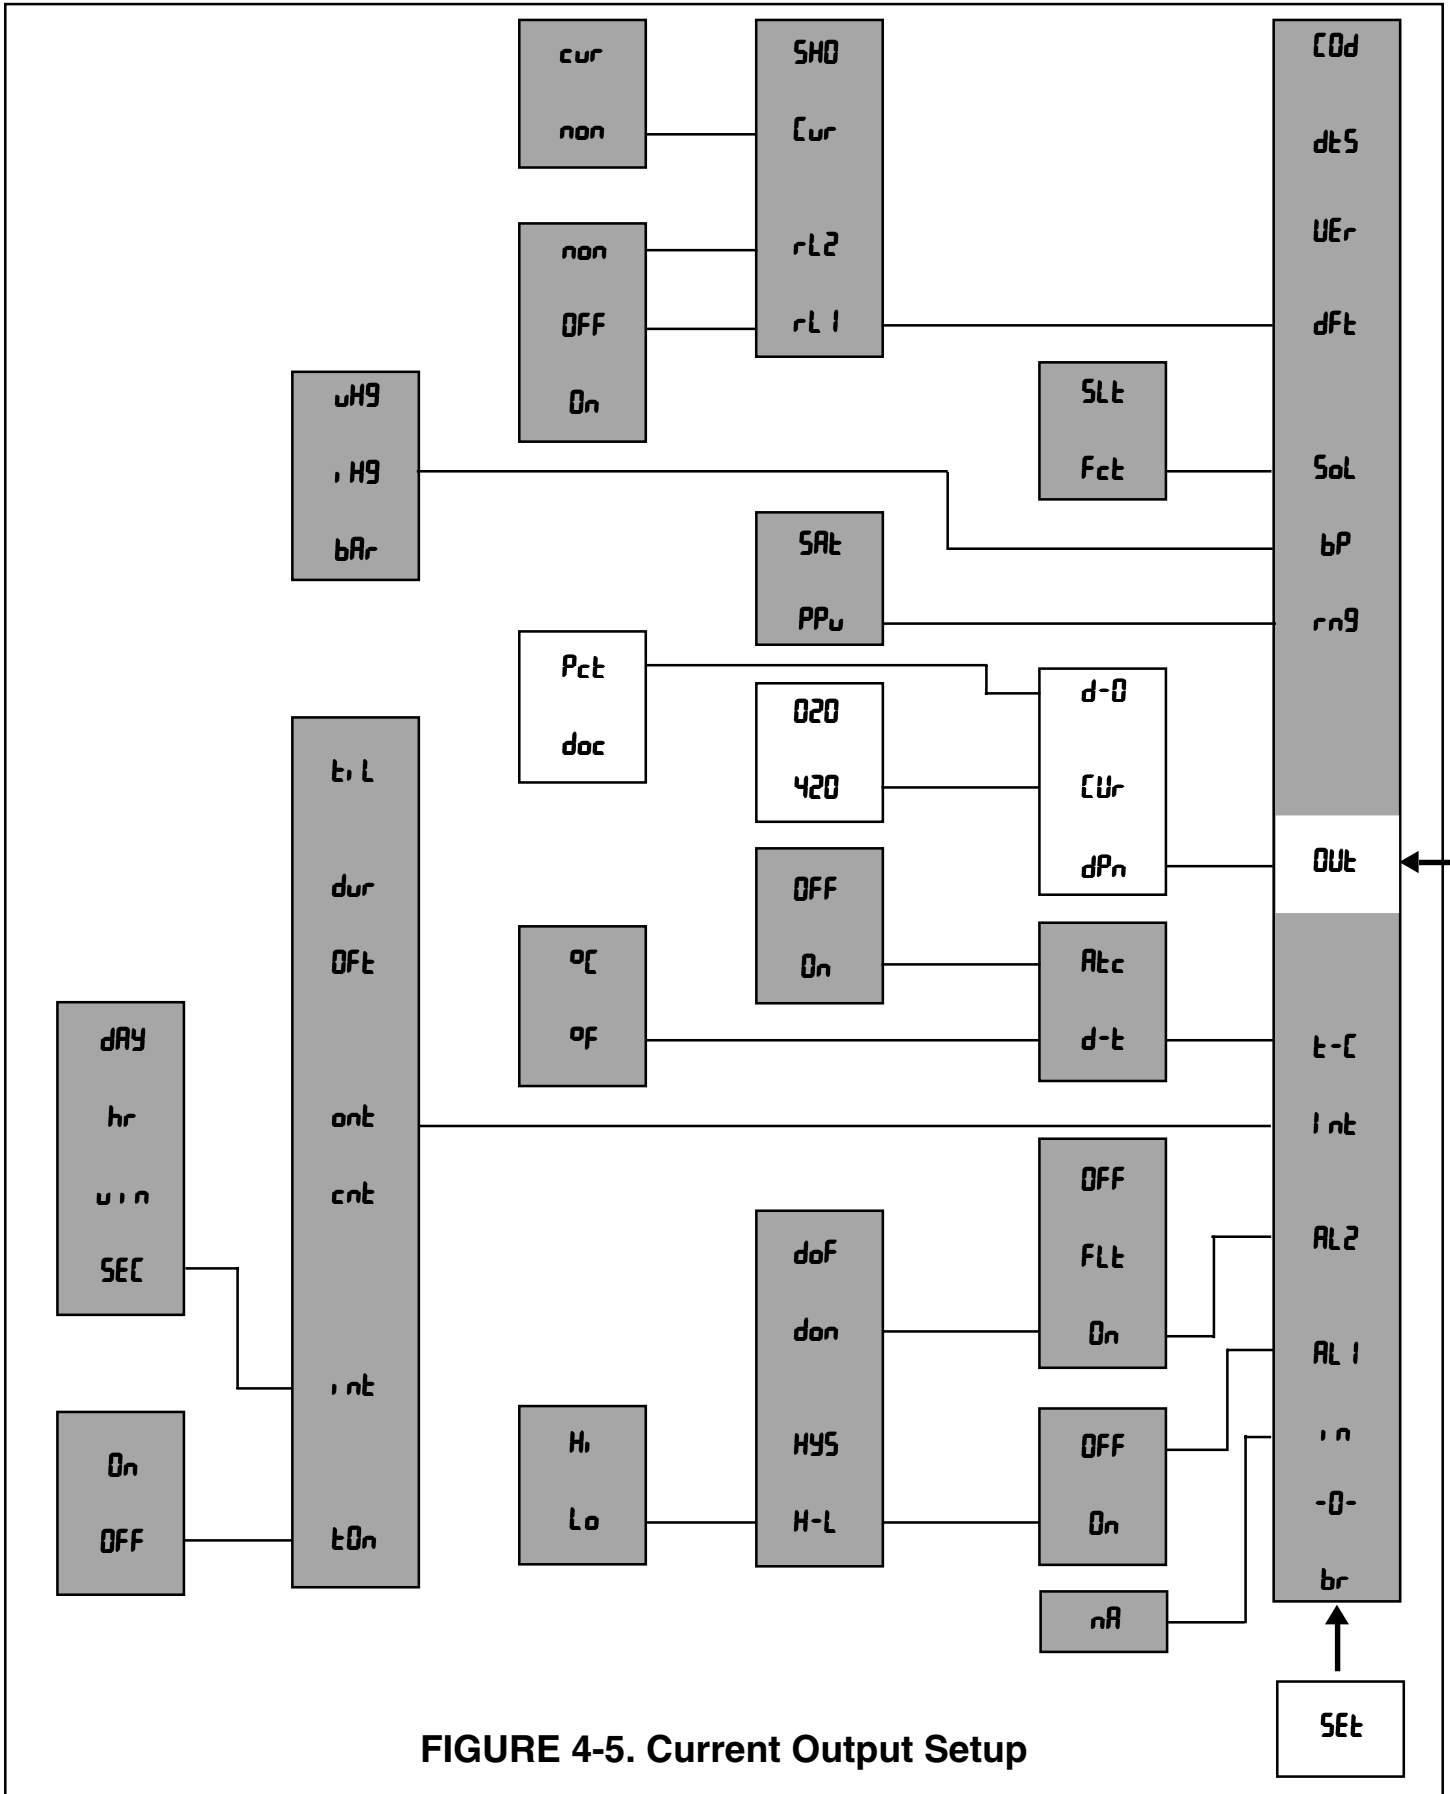

FIGURE 4-5. Current Output Setup
4.5.1 Output Setup (OUT). Refer to Figure 4-5.